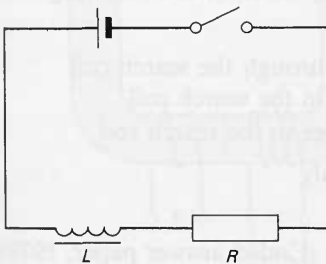

Figure H93
- 38(R)** A coil of inductance L (and zero resistance), and a resistance R are connected via a switch to a battery of voltage V (and no internal resistance). See figure H93.